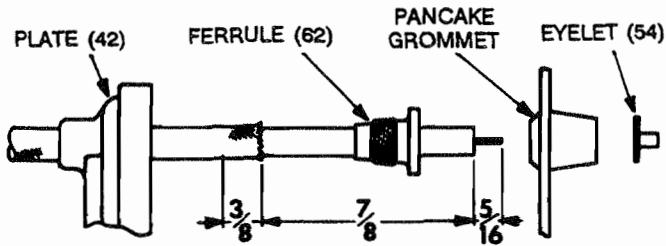

Figure 906
WT-111 M Crimping Tool (Must be modified. See Figure 906) Thomas & Betts Co., Inc. 1001 Frontier Road Bridgewater, NJ 08807-0993	Used to crimp eyelets (54) and terminals (51,51A) onto cable (53) conductor
L. Using modified WT-111 M crimping tool (see Figure 906), crimp eyelet (54) as follows:
- (1) Seat eyelet (54) over inner conductor flush against grommet (43)
C. S-20, S-200, S-700 and S-1200 adapter plate with pancake grommet (see Figure 906).